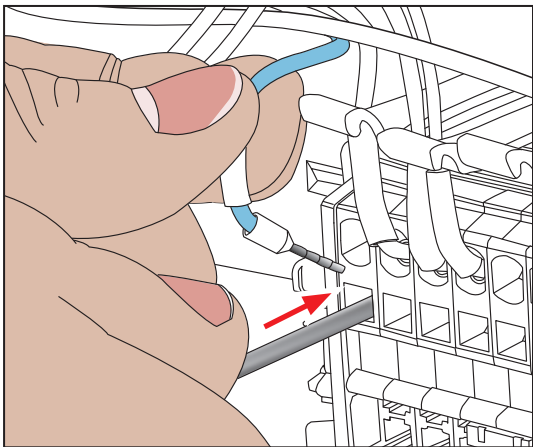

Figure 7
2) Slowly insert end of a small, flat-head screwdriver straight into any slot in green section of Ground Terminal Block (see Figure 7). IMPORTANT! Do not move screwdriver up or down inside terminal block. Failure to do so could result in terminal block damage.